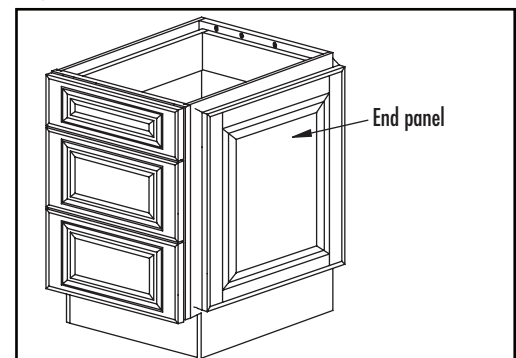

Figure 29
- Secure the end panel to the cabinet using #6 x 1" wood screws (Figure 29).